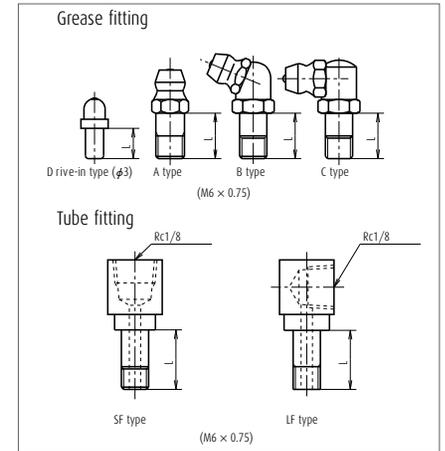

Fig. 12 Grease fitting and tube fitting
Fig. 12 and Table 7 show grease fittings and tube fittings. We provide lubrication accessories with extended thread body length (L) for the addition of dust-proof accessories such as NSK K1 lubrication unit, double seal and protector. We provide a suitable lubrication accessory for the special requirement on dust-proof accessories.